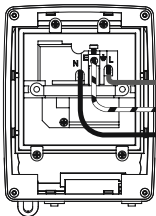

Figure 7
9. Pass through the 230V AC 50Hz mains supply cable and secure the cables tightly to their respective terminals ensuring that all bare conductors are sleeved and that correct polarity is observed, see figure 7, 8 or 9 for the appropriate wiring diagram of your chosen product. Note that if metal conduit is being used the earth continuity between the conduits must be maintained.